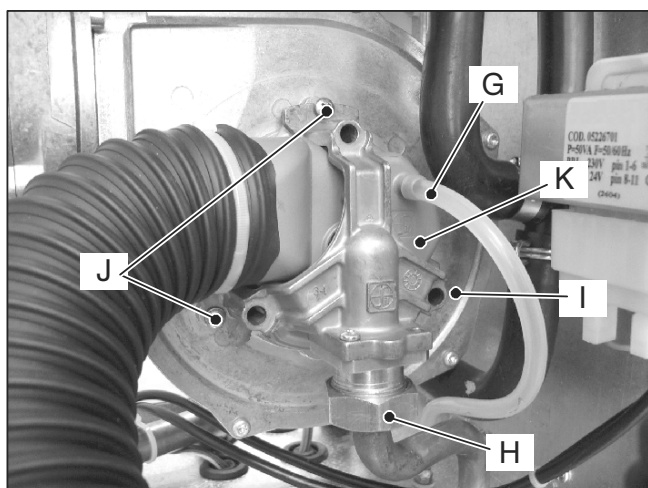

Fig. 8.6 (right side of the fan)
- 4 Disconnect the rubber pipe G (Fig. 8.6).